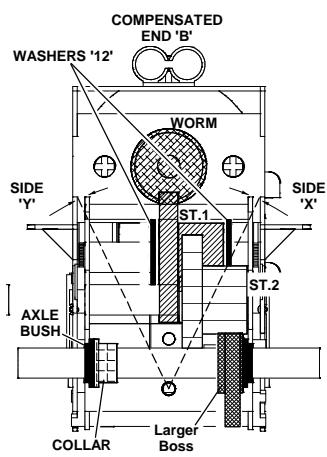

FIG. 4
Now you can fit the components into the bogie. Throughout this process, refer to Figures 4, 5 and 6, which shows the gear and spacer arrangements at both ends of the bogie. Starting at End 'A', slot one of the longer lengths of gearshafts through the stage 2 location. As you do this, include both etched Multi-spacers, along with a Stage 2, 20/10T gear. Check the gear is free to spin, swing the spacers so they hang outside the bogie, then fasten the shaft to the bogie sides only, at both ends, using a tiny amount of glue. Be careful the glue doesn't jam up the gears or spacers.
(it's the same as an axle bush – see Fig 4) and then a 20T single gear (boss facing upwards to 'Y') onto the lower end of the shaft. Hold them in position as you place the bogie on a suitable surface, so the lower axle bush is supported (over the corner of your workbench or vice jaws) and push or gently tap the axle through the gear, so it emerges from the lower side (X) of the cradle and bogie – take great care not to damage the body mounting lugs as you do this.